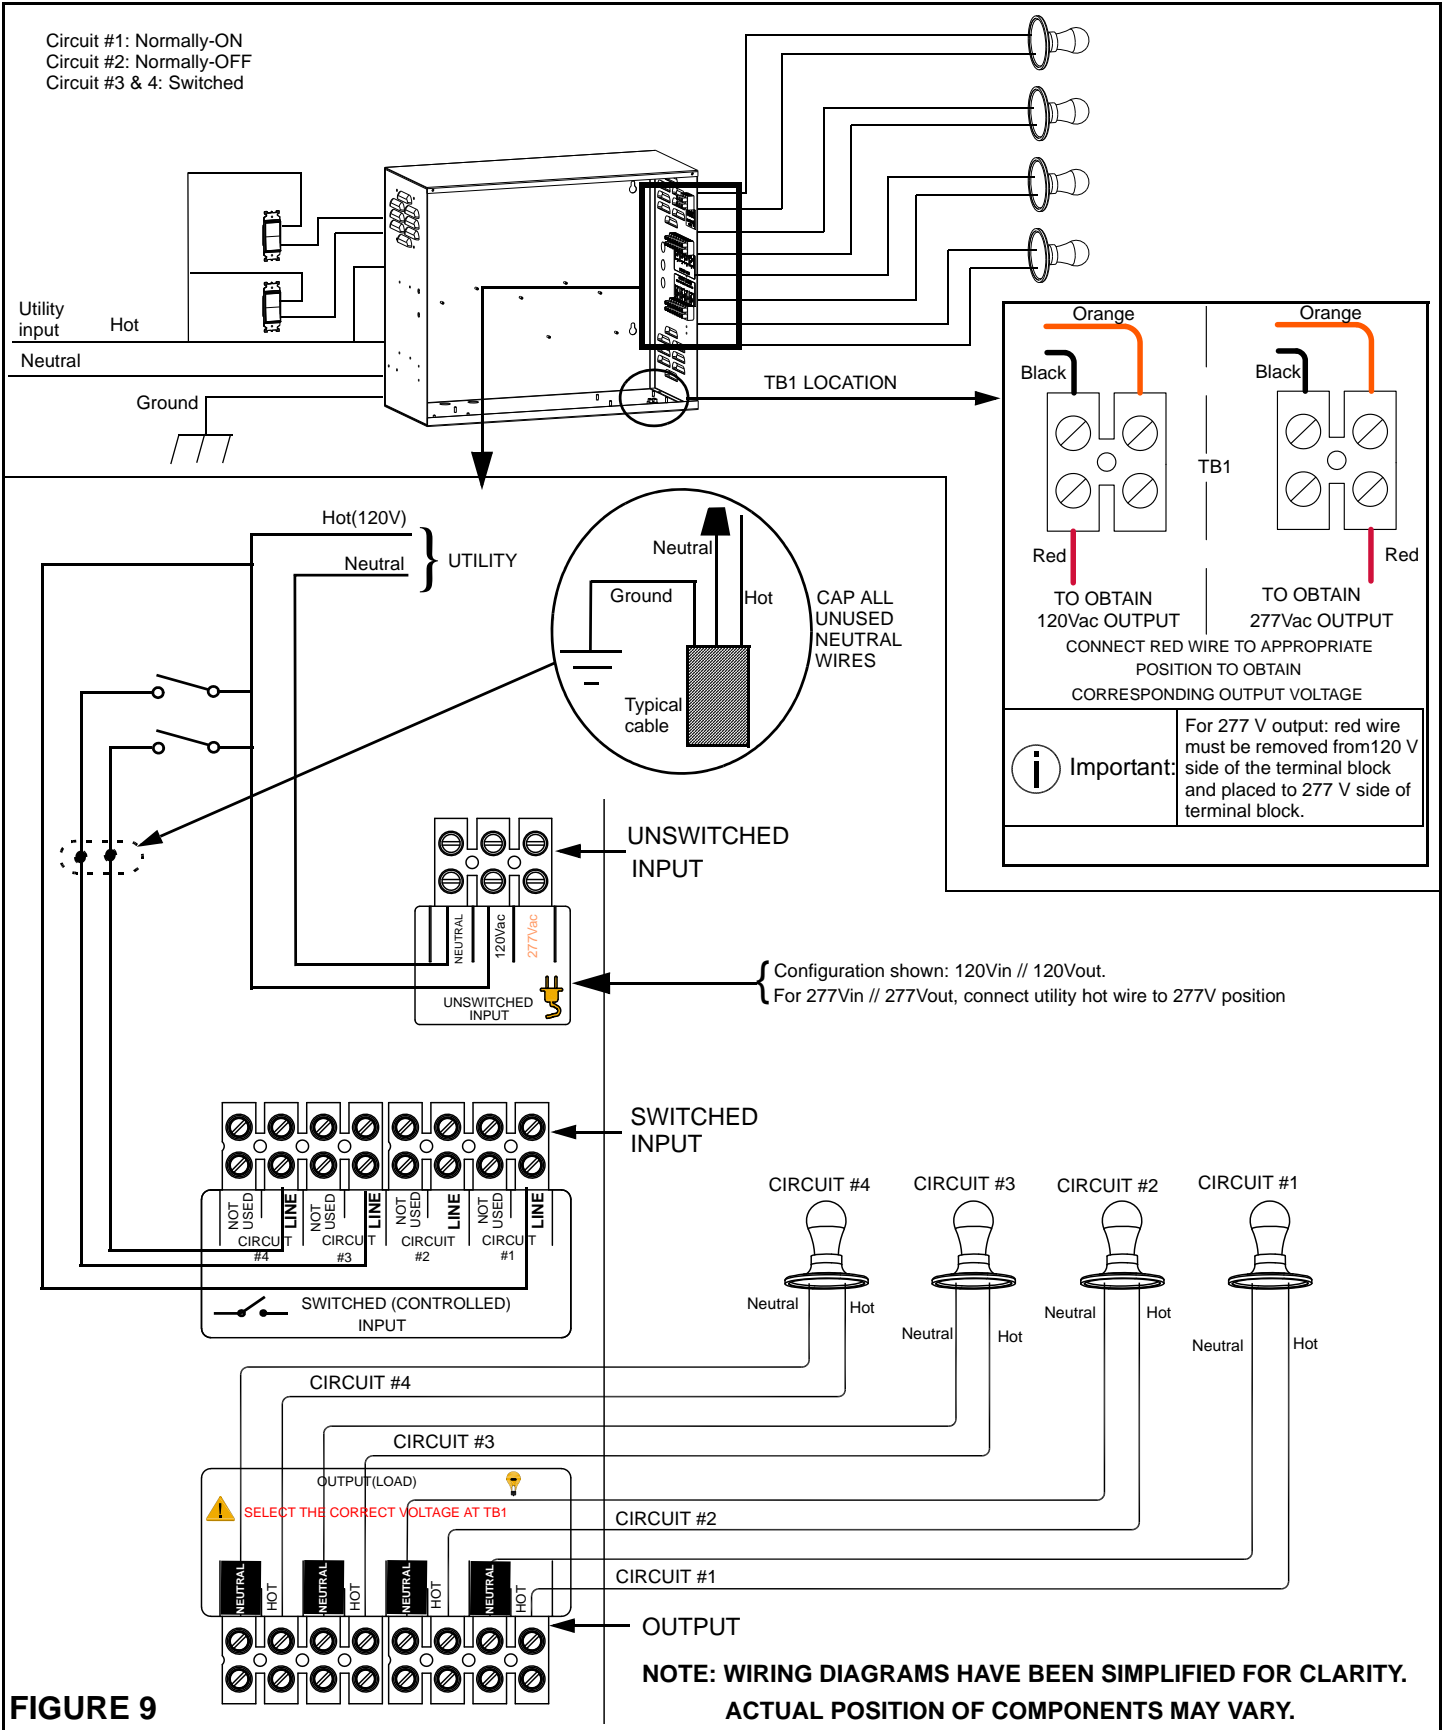

FIGURE 9
- Combination of Normally-On, Normally-Off and Switched Load Operation** (Refer to Figure 9 for wiring details) - Each circuit in the Mini Inverter with the 4C option can be configured in one of the previously described modes of operation.